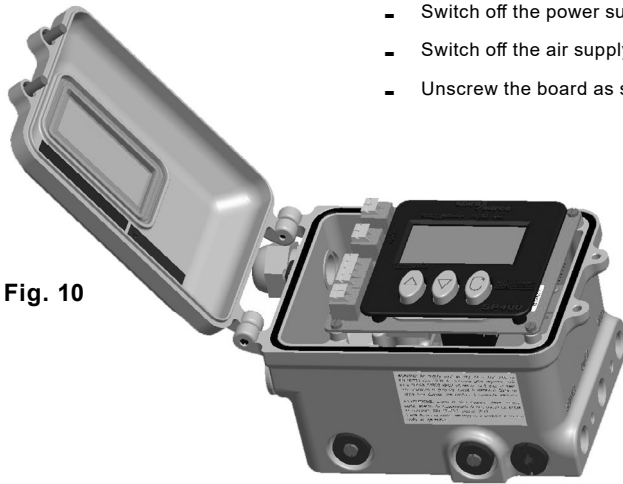

Fig. 10
- Open the positioner (Figure 10).